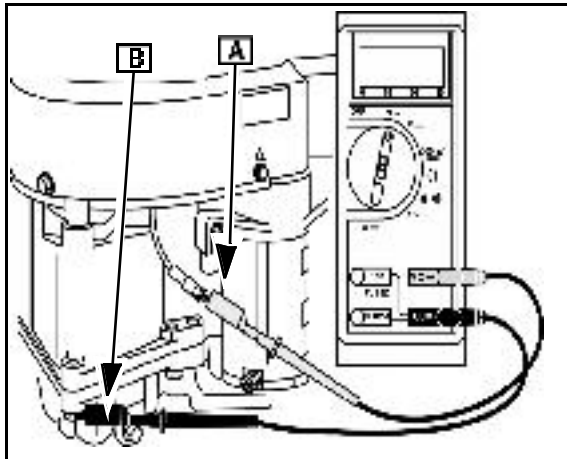

Fig. 16
2. Attach RED test lead clip to AC output terminal connector ([A] Fig. 16).
3. Attach BLACK test lead clip to engine ground ([B] Fig. 16).